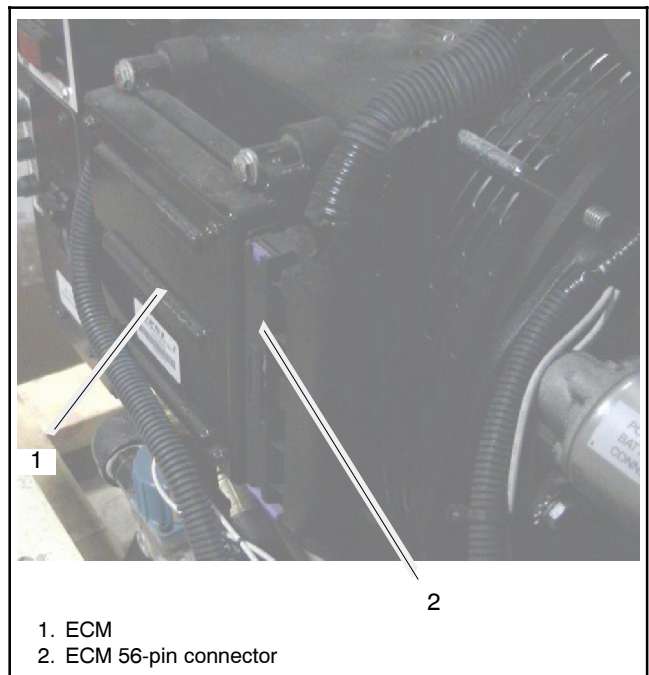

Figure 1 ECM and 56-Pin Connector
3. Locate plug P10 (ECM 56-pin plug shown in Figure 1) and cut lead #222 near the P10 plug a minimum of 3 in. from the plug.